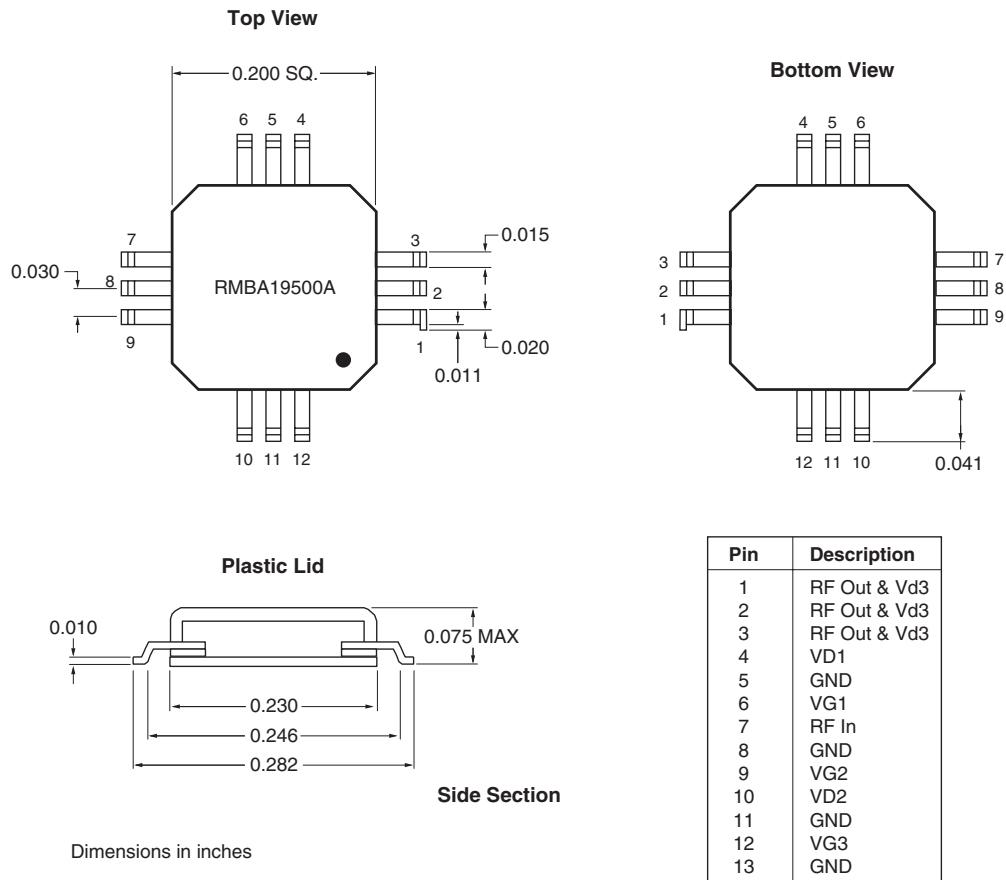
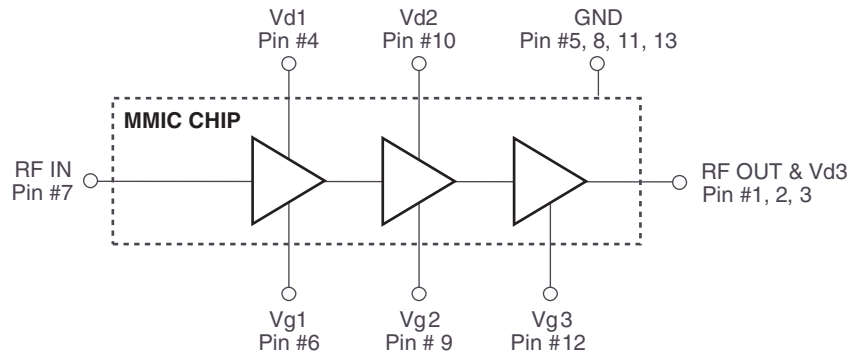
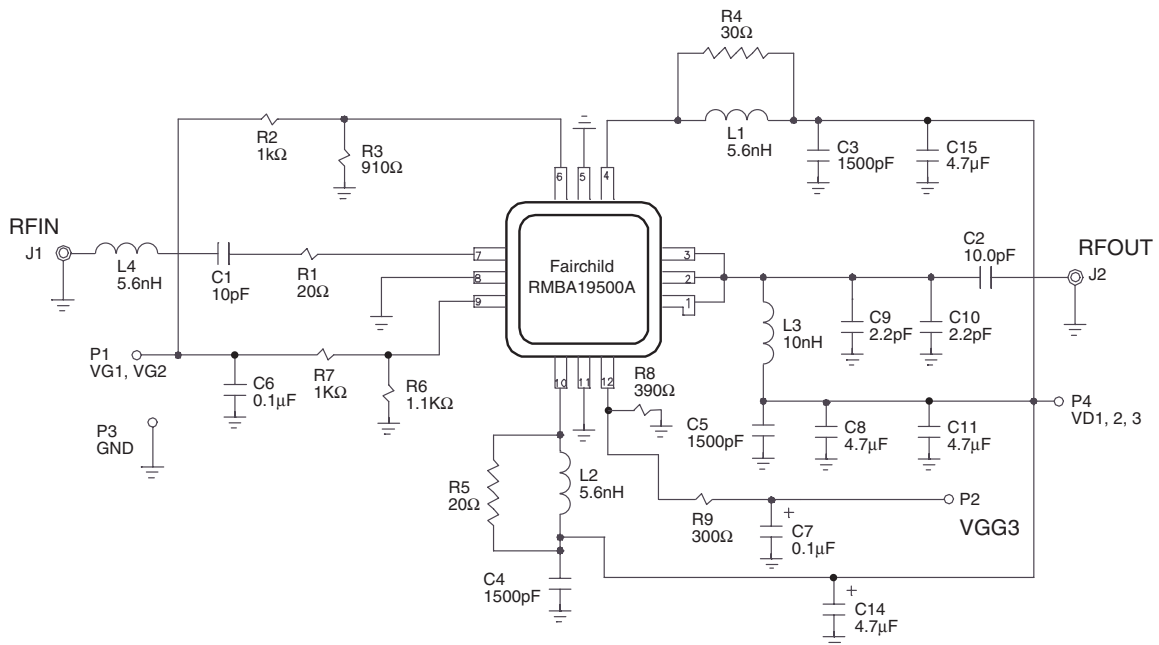
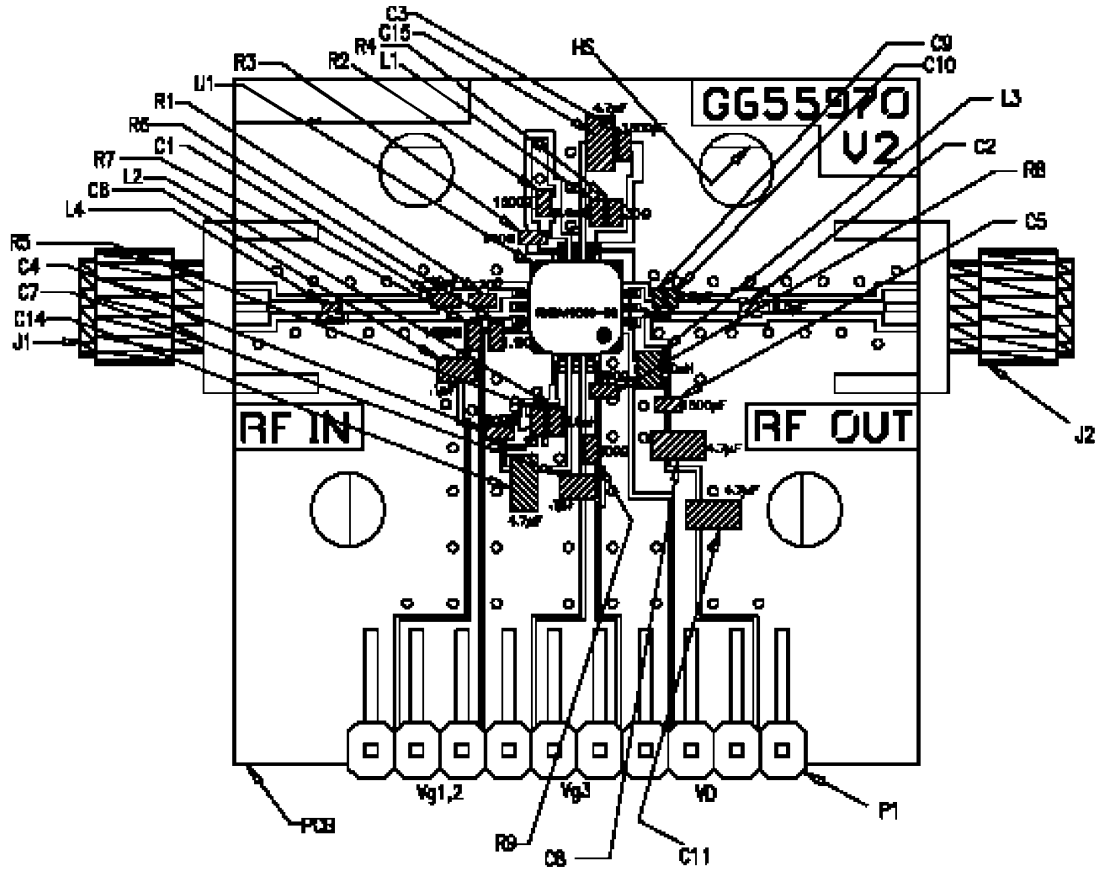

Figure 1. Package Outline and Pin Designations
Figure 2. Functional Block Diagram
Figure 3. Schematic of Application Circuit Showing External Components
Figure 4. Layout of Test Evaluation Board (RMBA19500A-TB, G655971)
The device requires external input and output matching to 50 Ω as shown in Figure 3 and the Parts List.
The following describes a procedure for evaluating the RMBA19500A, a monolithic high efficiency power amplifier, in a surface mount package, designed for use as a driver stage for PCS1900 Base station or as the final output stage for Micro- and Pico-Cell base stations. Figure 1 shows the package outline and the pin designations. Figure 2 shows the functional block diagram of the packaged product. The RMBA19500A requires external passive components for DC bias and RF input and output matching circuits as shown in Figure 3 and the Parts List. A recommended schematic circuit is shown in Figure 3. The gate biases for the three stages of the amplifier may be set by simple resistive voltage dividers. Figure 4 shows a typical layout of an evaluation board, corresponding to the schematic circuits of Figure 3. The following designations should be noted:
- (1) Pin designations are as shown in Figure 2.
- (2) V_{g1} , V_{g2} , and V_{g3} are the Gate Voltages (negative) applied at the pins of the package.
- (3) V_{gg1} , 2, and V_{gg3} are the negative supply voltages at the evaluation board terminals (V_{g1} and V_{g2} are tied together).
- (4) V_{d1} , V_{d2} , and V_{d3} are the Drain Voltages (positive) applied at the pins of the package.
- (5) V_{dd} is the positive supply voltage at the evaluation board terminal (V_{d1} , V_{d2} , and V_{d3} are tied together).